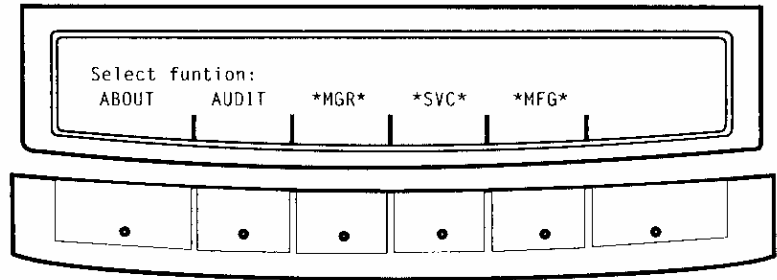

Figure 5
- MORE...** - Press this key to display another set of soft keys, See Figure 5.